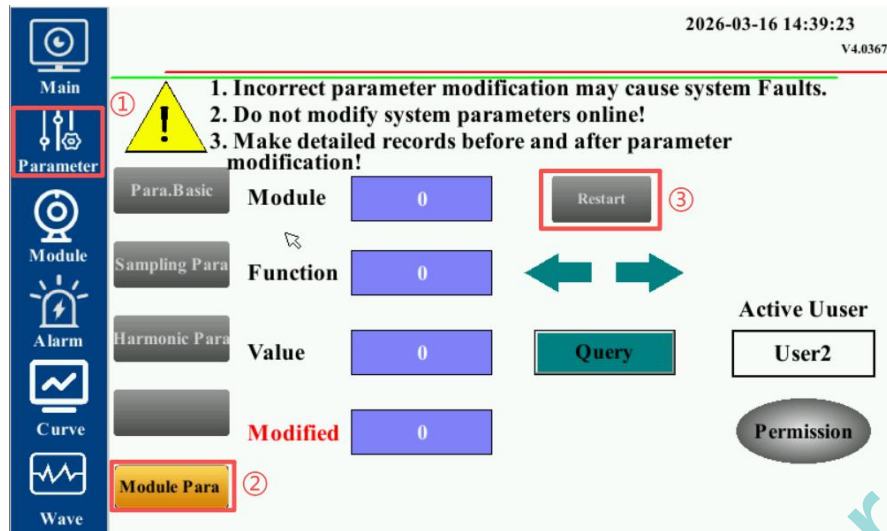

Figure 7.25: Touchscreen Restart Interface
- 3) If you have already entered the main interface, please locate and click "Parameters" in the title bar on the right side. After entering the password (Password: 123), locate and click "Debug Parameters" within the interface's title bar. In the displayed Debug Parameters interface, find the "Restart" button (as shown in Figure 7.25); please click "Restart" and repeat the previous operation of continuously pressing and holding the screen.